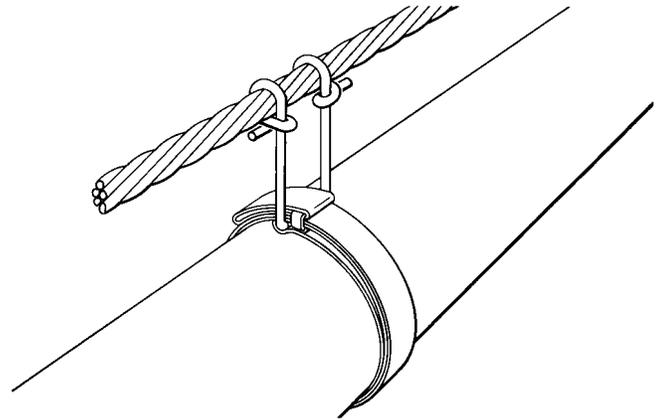

Fig. 20—Alternate Method of Attaching Wire Hanger
6.04 An alternate method of attaching the wire hanger to the strand requires the wires be bent around the strand and outside of the vertical portion of the wires as shown in Fig. 20.